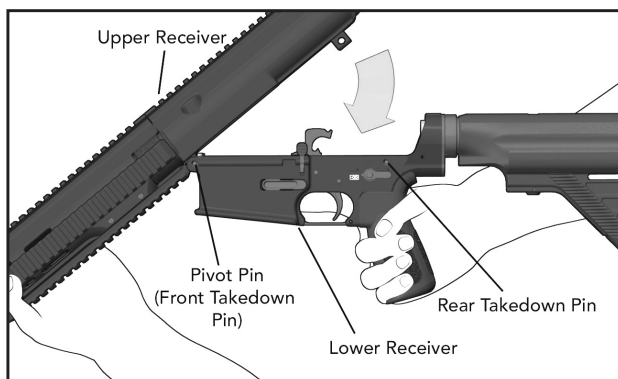

Fig. 67 – Closing Upper and Lower Receiver
- c. Mount the lower receiver to the upper receiver. Drift the front pivot pin from right to left. The pivot pin will not completely lock but it will engage the upper receiver (Fig. 67).